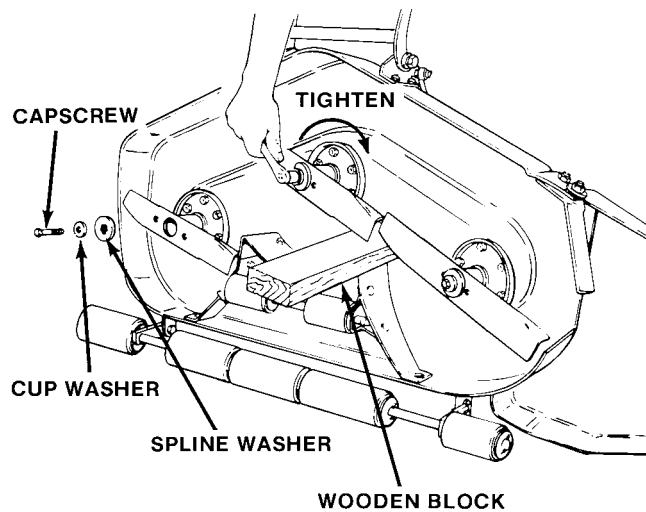

Figure 20. Check, Sharpen, and Balance Mower Blades (Yearly Care - or as needed)
4. Check, sharpen, and balance the mower blades (see figure 20).